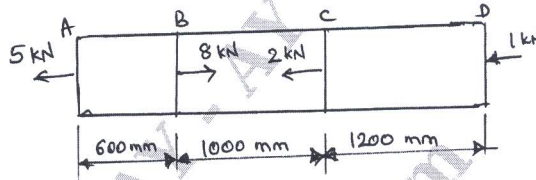

Fig.Q1(c)
- c. A brass bar having cross-sectional area 1100 mm^2 subjected to axial force as shown in Fig.Q1(c). Determine the total elongation of the bar by assuming the modulus of elasticity as 106 GN/m^2 .